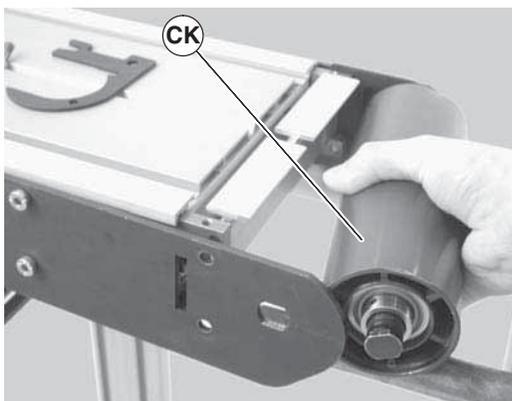

Figure 62
4. Slide the idler pulley assembly (Figure 62, item CK) out of the headplate on the opposite side.